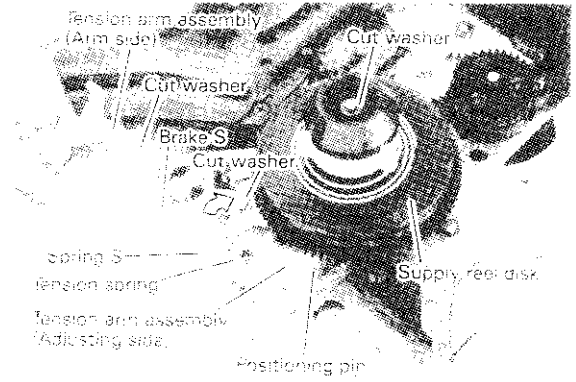

Fig. 3-21-16
- (1) Attach the thrust washer to the tension arm assembly (arm side) mounting shaft. (See Fig. 3-21-16.)
- (2) Attach the tension arm assembly to the main plate so that the positioning hole of the tension arm assembly (adjusting side) matches the positioning pin of the main plate, then fix with the fixing screw.
- (1) Make sure that braking performance isn't lowered by any oil deposited onto the face of the brake S which comes in contact with the reel disk.
- (2) Attach the brake S onto the main plate and fix with the cut washer. (See Fig. 3-21-16.)
- (1) Attach the tension spring to both ends of the tension arm assembly (arm side and adjusting side). (See Fig. 3-21-16.)
- (2) Attach the spring S to the brake S and the tension arm assembly (adjusting side).
- (1) Attach the thrust washer to the reel disk mounting shaft. (See Fig. 3-21-16.)
- (2) Move the brake S in arrow direction and turn the tension arm clockwise by about 90°.
- (3) Attach the reel disk to the reel disk mounting shaft.
- (4) Make sure that the reel disk turns smoothly once the brake S and the tension arm are being moved.
- (5) Move the master plane.
- (6) Press the square for height adjustment (reel disk reading side) REEL - M mark) onto the master plane.
- (7) Blue the height (square mark) of the square, the edge of the reel disk, and make sure that the reel disk turns smoothly at A point of the circle (upper end of the measuring parts, arm does not turn) at B point (lower end of the measuring parts). Check in two directions of X-axis and Y-axis.
- (8) If the result of the above check isn't favorable, adjust by changing number of the thrust washers (Parts No. 5520001020) attached under the reel disk.
- (9) Fix the reel disk with the cut washer.